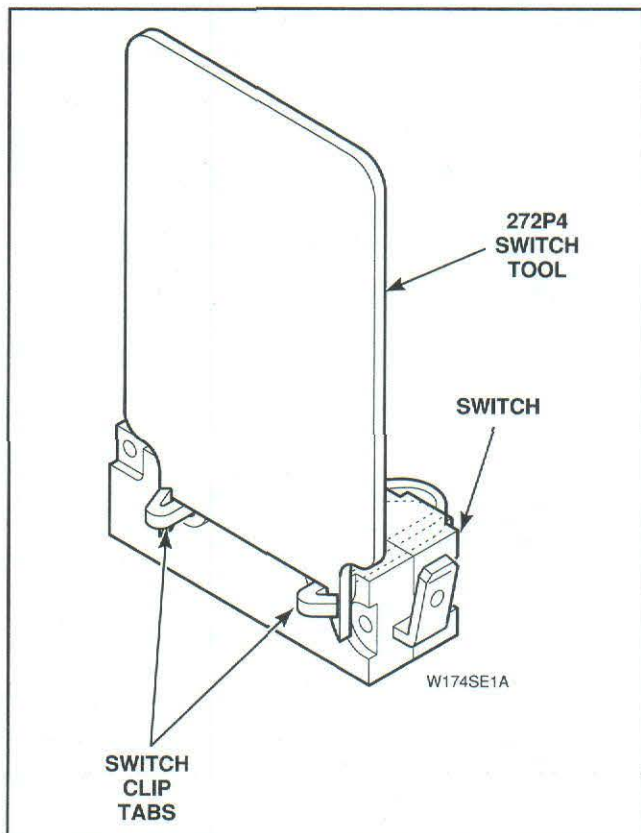

Figure 33
- Place switch tool, Part No. 272P4, over switch clip tabs as shown in *Figure 33*.